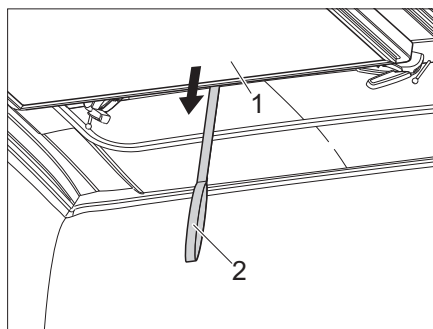

Fig. 21 Pulling the sleeping area downwards
- Pull the sleeping area (Fig. 21,1) downwards with the belt (Fig. 21,2).
- ▷ Before closing the pop-up roof pull the sleeping area (Fig. 21,1) down. **Do not** pull the sleeping area and the pop-up roof down at the same time.